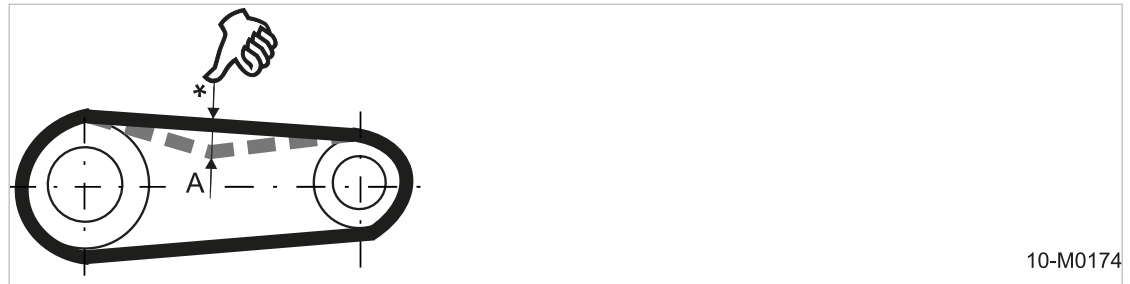

Fig. 23 Manually check the belt tension
1. Check belt tension with the tension measuring device. 2. Tighten loose belt (see chapter 10.4.8.3). 3. Replace the belt guard, if provided. 4. Reconnect the negative battery terminal.	To check the belt tension, press the belt in with the thumb at the mid-point between pulleys. 1. Check belt tension by hand (see Fig. 23). 2. Tighten loose belt (see chapter 10.4.8.3). 3. Replace the belt guard, if provided. 4. Reconnect the negative battery terminal.